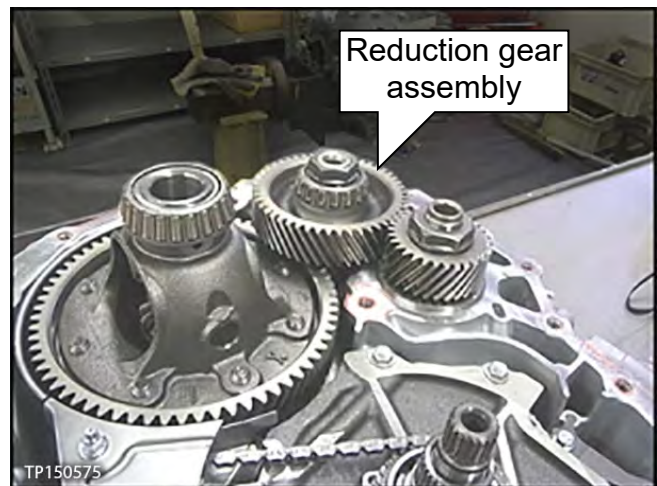

Figure 6
8. Carefully remove the reduction gear assembly (see Figure 6).